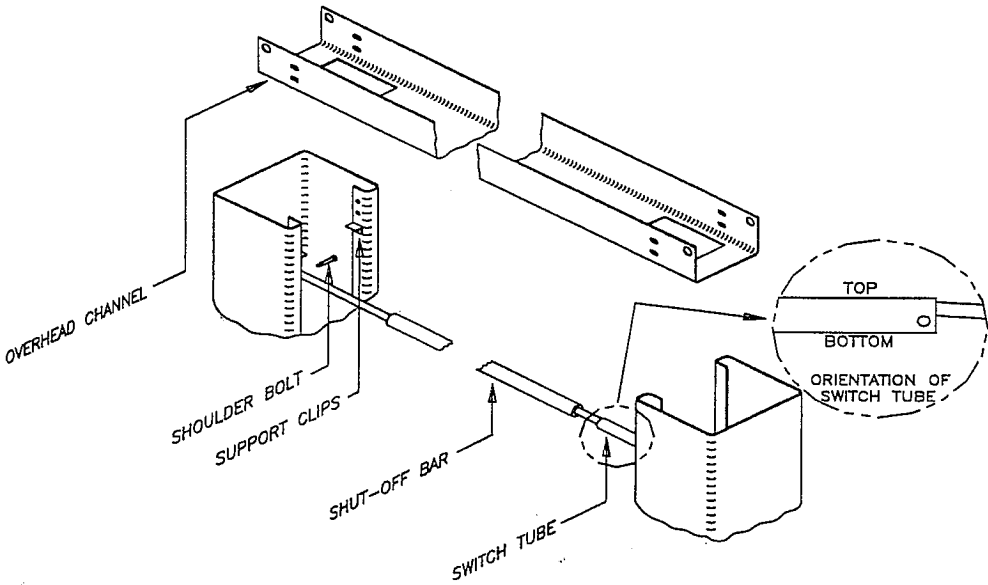

Fig 5
7. Attach the overhead support clips to the columns (*see Figure 5*). Set the overhead channel in the columns onto the support clips. Fasten channel using the 3/8 bolts, nuts, and washers